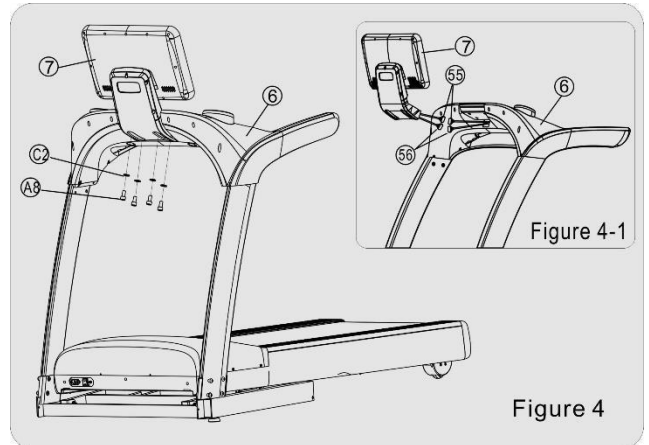

Figure 4
- Connect the display screen (7) to handlebar and controller (6) using 4 sets of Half-round bolt M10X20(A8), Flat washers  $\phi 10$ (C2).(Attention: To align screw hole)(See figure 4)